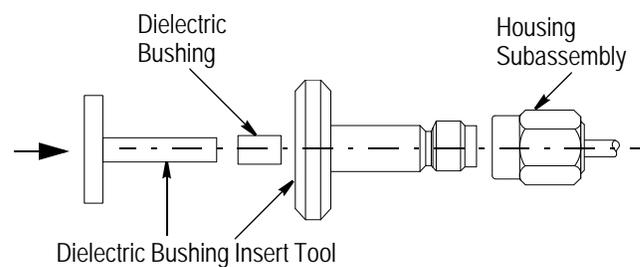

Figure 5
1. Thread the housing subassembly onto the dielectric bushing insert tool. See Figure 5.